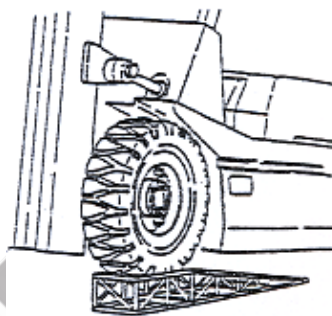

Figure2-74
9. 5. 4 Replace the roller of main frame as shown in Figure 2-74